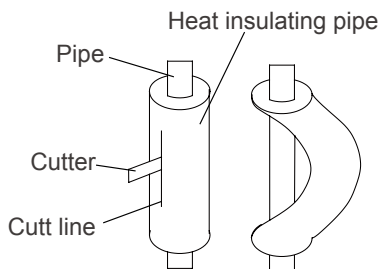

Fig.13
- (2). Do not bend the pipes in an angle more than 90°.
- (3). When pipes are repeatedly bent or stretched, the material will harden, making it difficult to bend or stretch them any more. Do not bend or stretch the pipes more than three times.
- (4). When bending the pipe, do not bend it as is. The pipe will be collapsed. In this case, cut the heat insulating pipe with a sharp cutter as shown in Fig.13, and bend it after exposing the pipe. After bending the pipe as you want, be sure to put the heat insulating pipe back on the pipe, and secure it with tape.